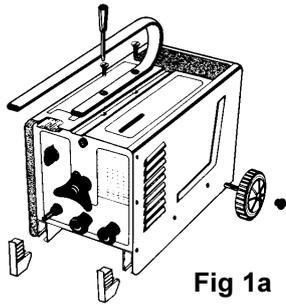

Fig 1a
3.1. Where necessary assemble wheels, handle, feet etc (fig 1a,b,c) and fit the lens inside face mask (fig 2).